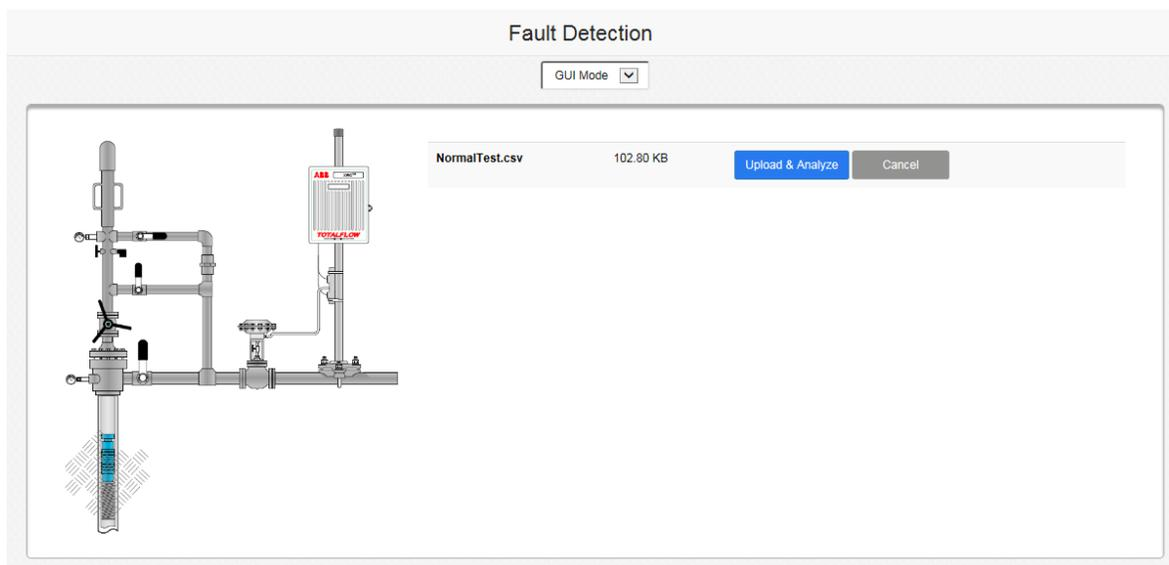

Figure 44: Uploading files for Fault Detection
- 5) Browse to the input directory, locate and select the input file (Figure 44).